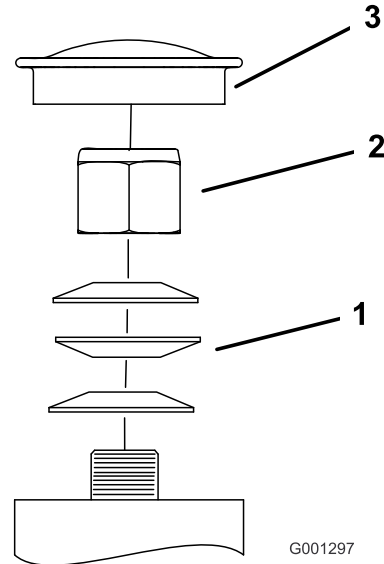

Figure 47
3. Remove the dust cap from the caster and tighten the locknut (Figure 47).
4. Tighten the locknut until the spring washers are flat, and then back off a 1/4 turn to properly set the preload on the bearings (Figure 47).
**Important:** Make sure that the spring washers are installed correctly as shown in Figure 47.
5. Install the dust cap (Figure 47).